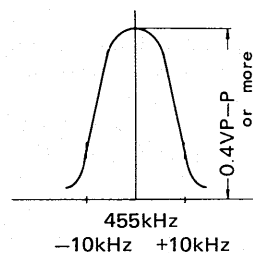

Fig. 6
- e) Adjust the IFT cores (T9, T10, T11) as shown in Fig. 6, for maximum gain and symmetrical pattern.